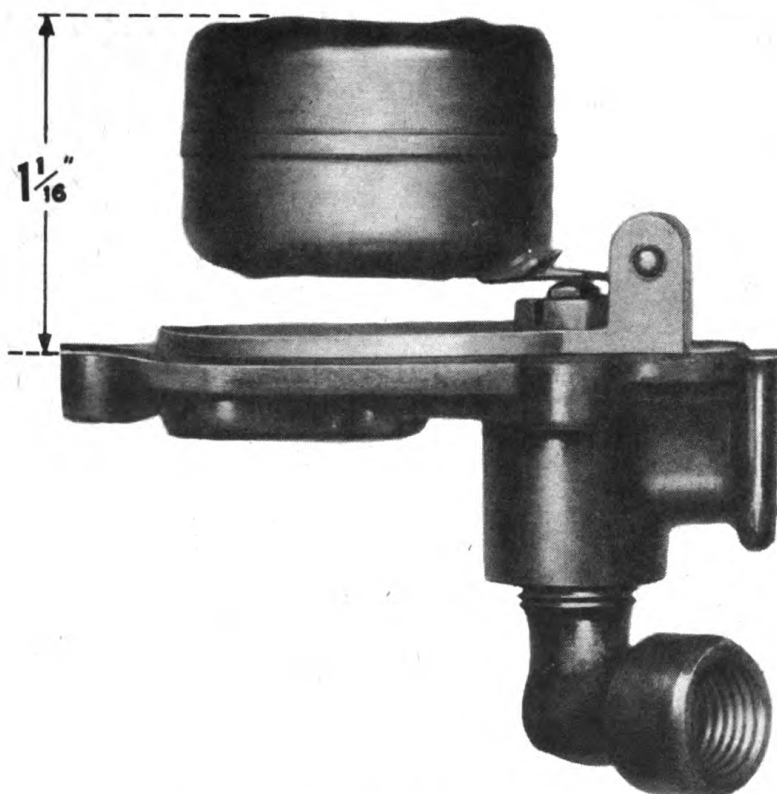

Figure 23—Float Level Adjustment
c. **Float Level Adjustment.** (See figure 23.)—Turn carburetor bowl cover upside down; then with float lever resting on inlet needle, the distance from the smooth faced edge of the float to the bowl cover, without gasket, should be $1\frac{1}{16}$ inches. Bend float lever up or down to obtain this measurement.